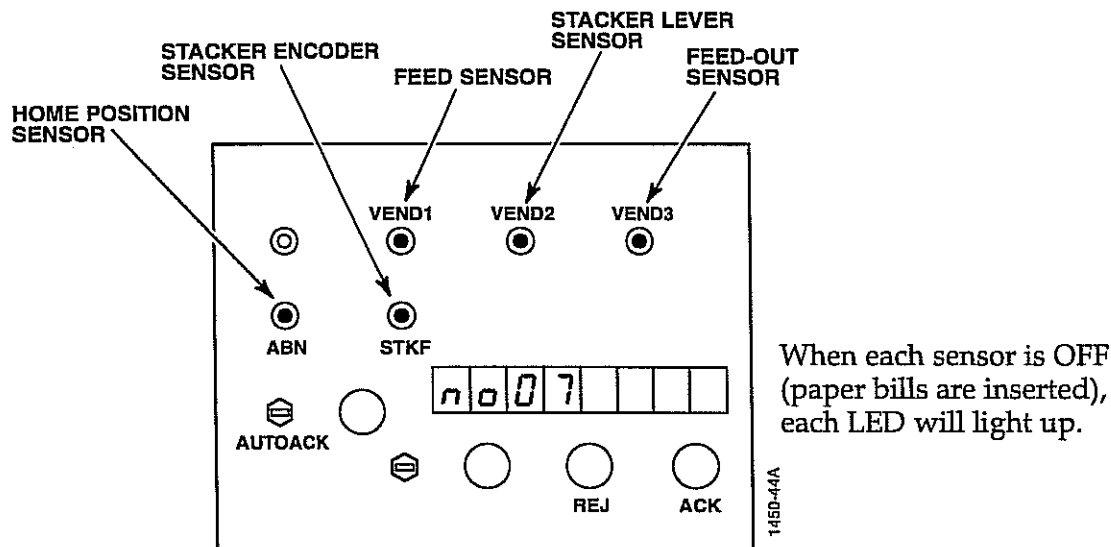

Figure 3-35. Test No. 07 Displays.
2. Make sure that **no. 07** is displayed on the LED display (see Figure 3-35).